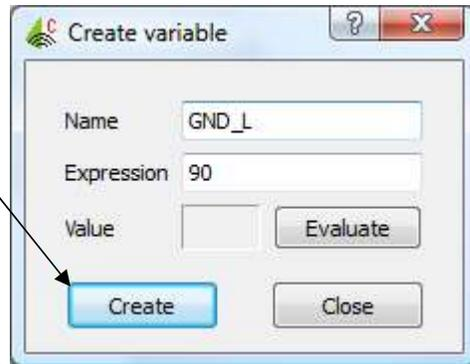

Figure 3.
- Right click the “Variables” tree on the left side of the screen, and click on “Add Variable” to be prompted with a window like Figure 3. Fill the variables one after the other for the geometry of interest.